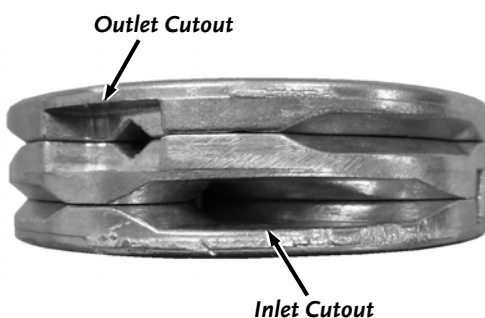

Figure 12
7. Assemble the Plates ensuring that they are aligned properly and the Springs and Cams are seated fully into the Plate grooves. The four Screw holes must be aligned and the two halves of the side cutouts should align from Plate to Plate (**Figure 12**).